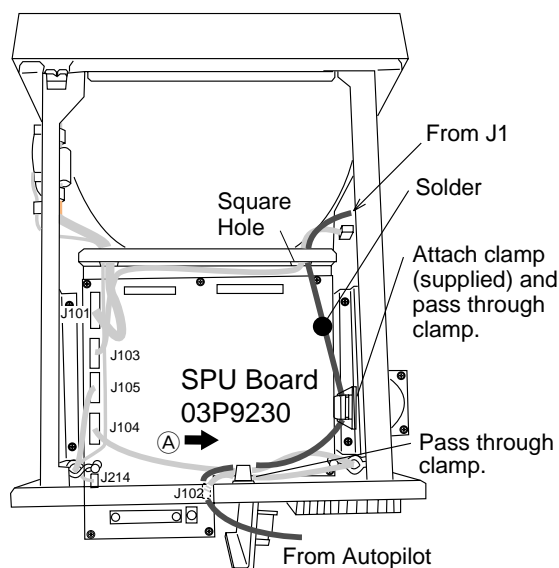

Figure 4-14 Display unit, top view
8. If applicable, connect autopilot to J1 with an XH connector (5P). Solder and wire the cable as shown in Figures 4-14 and 4-15.